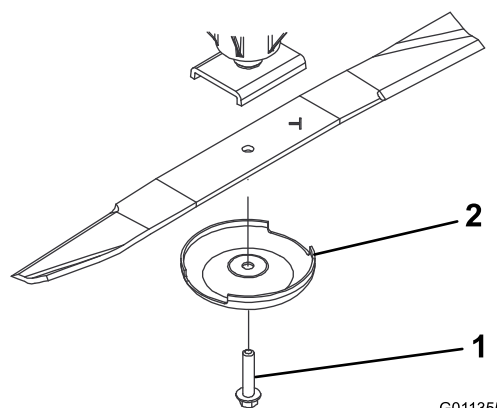

Figure 70
3. Grasp the end of the blade using a rag or thickly padded glove and remove the blade bolt, anti-scalp cup, and blade from the spindle shaft (Figure 70).
4. Use the anti-scalp cup and blade bolt to install the blade with the sail facing toward the cutting deck (Figure 70).